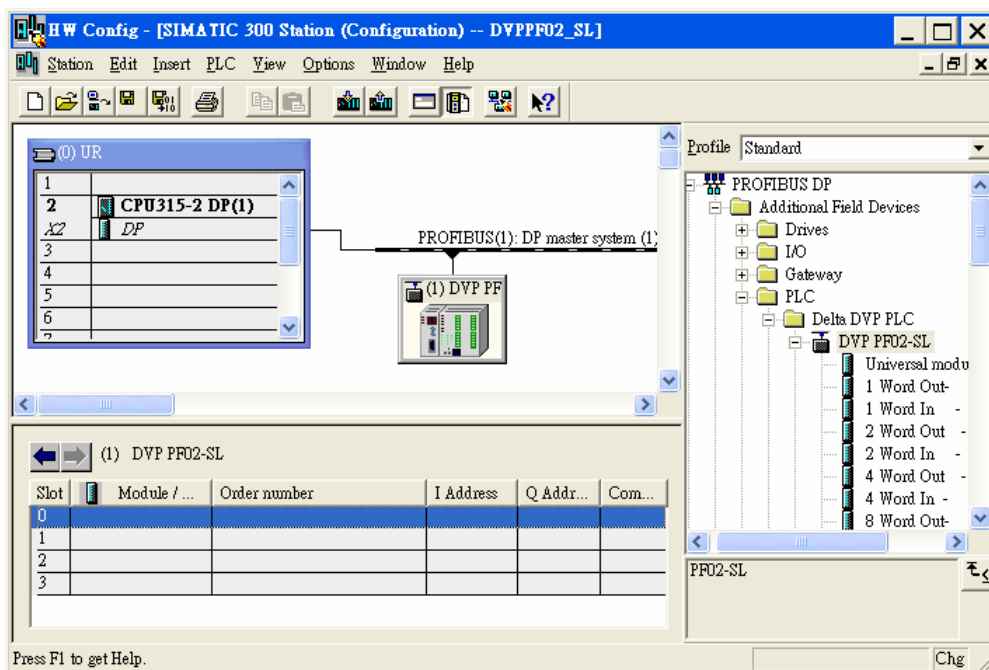

Figure 10-23
4. Select Slot 0 and double click “1 Word Out” on the right-hand side window, as Figure 10-23.